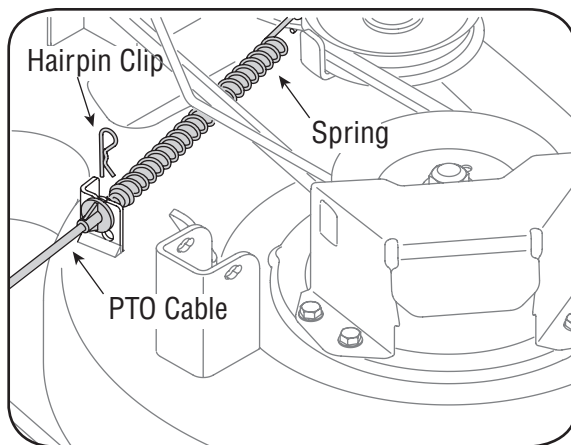

Figure 6-4
11. For models with manual pto, remove the hairpin clip that secures the PTO cable to the rear of the cutting deck. See Figure 6-4. Remove the PTO cable and accompanying spring from the cutting deck.